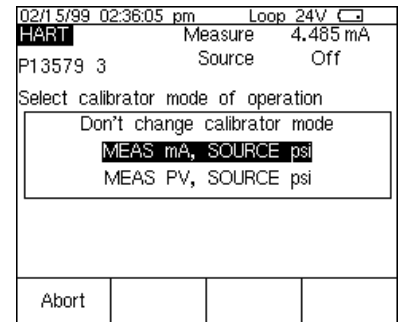

Figure 6
2. Press the  key again and you are prompted to select the 744 configuration (Figure 6). Selecting **MEAS mA, SOURCE psi** will configure the calibrator to measure the analog mA output and the pressure being applied simultaneously to the transmitter input and the pressure module. (Selecting **MEAS PV, SOURCE psi** will configure the 744 to evaluate the digital PV output from the transmitter.) Press  to select.